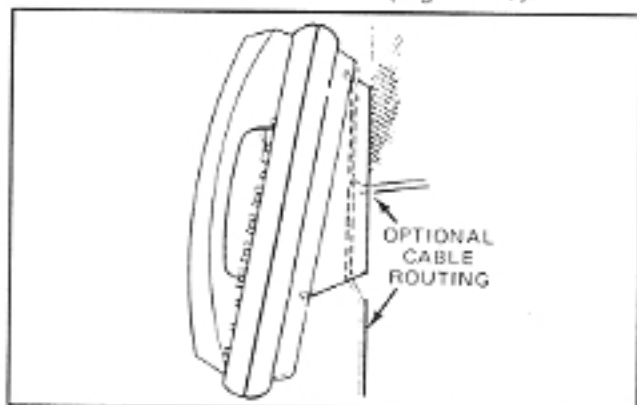

FIGURE 40
08.27 Route the tail cord through the holes in the base and secure the EKT (Figure 40).